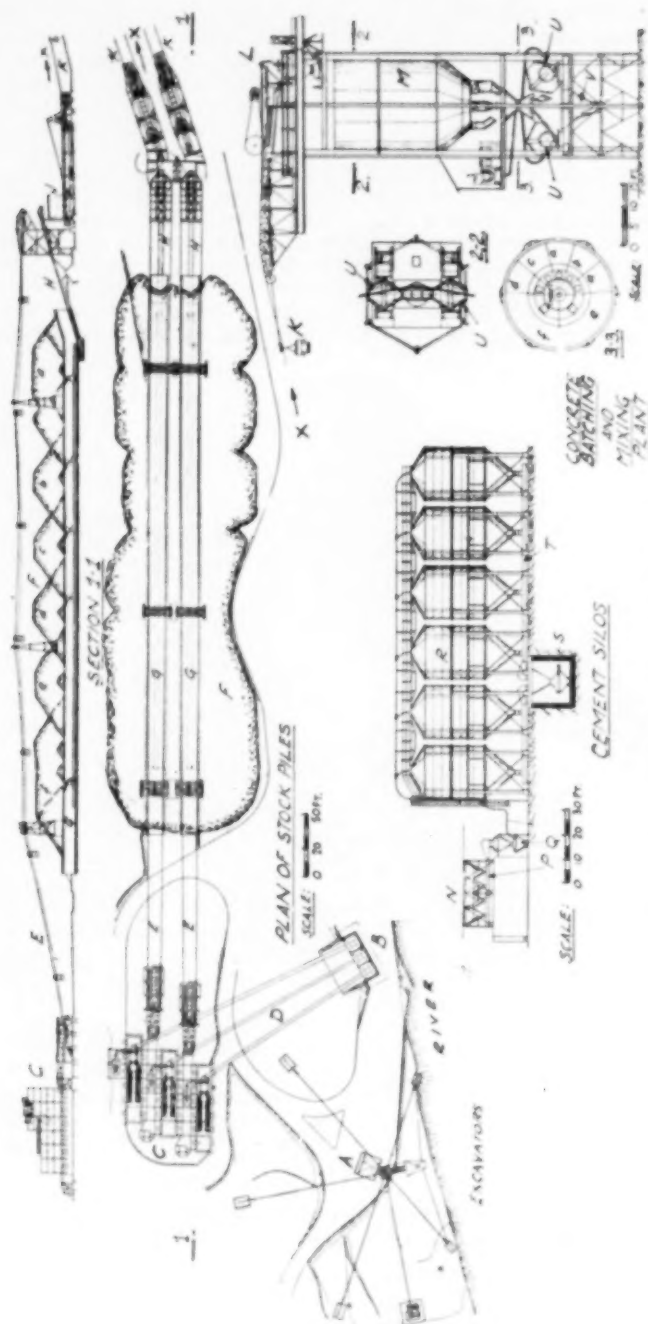
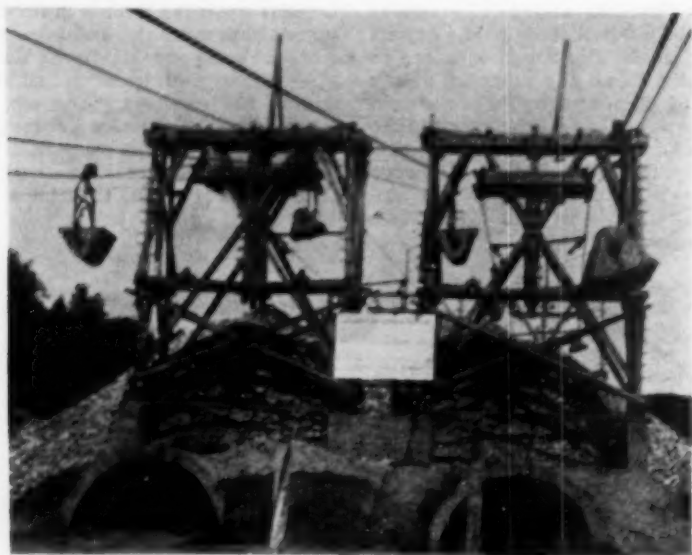

Fig. 4.—Materials and Concrete-making Plant.
Fig. 6.—Conveyor Tunnels under Stockpiles.
About  $1\frac{1}{2}$  miles downstream from the dam, aggregate is dredged from the river-bed by six electrically-operated cableway excavators (Fig. 4). Four of these machines have a span of 820 ft., and two have a span of 655 ft. Each excavator has a  $1\frac{1}{2}$ -cu. yd. bucket and digs an average of 50 tons of material an hour. The bucket is lowered from the overhead cable on to the river-bed and dragged a short distance at slow speed until filled; the operator depends upon experience to judge when the bucket is filled. The full bucket is raised and brought to the bank, where it is automatically tipped and emptied into a hopper (Fig. 5). The empty bucket returns by gravity to the digging position.
The hopper discharges into storage bins (A in Fig. 4), from which tipping wagons are loaded. The wagons deliver the aggregate to 10-cu. yd. underground feed-hoppers (B) serving the washing and screening plant (C). A screen with 8-in. apertures is provided above the feed-hoppers to separate large pieces of stone. The material is conveyed from the feed-hoppers by belt apron-feeders which discharge on to three inclined 30-in. belt conveyors (D) supplying the washing and screening plant at a constant rate.
transported by two double-cable ropeways (E) to stock-piles (F) (Fig. 4). The two ropeways could transport 400 tons of aggregate an hour. The empty buckets, on reaching the storage bins, are released automatically from the hauling rope, and run by gravity on a shunt-rail to the loading position. When full they run by gravity to a locking frame, where the ropes are automatically gripped, and the buckets travel to storage piles for different grades of material. Storage is necessary
Conveyors (G in Fig. 4) in parallel tunnels (Fig. 6) under the stock-piles are fed from controlled outlets and pass the material to inclined belt-conveyors (H) which run to the top of storage bins (J) and deposit in these bins aggregate of the size needed at the mixing station at a particular time. The bins discharge into the buckets of two single-cable overhead ropeways (K) by which the aggregate is taken to a central concrete-mixing station more than  $1\frac{1}{4}$  miles distant. Each single-
Seven compartments are for aggregates of different sizes (a) to (f), and the central one is for cement (Figs. 4 and 9).
which conveyors (P) carry it to an activator (Q) feeding six silos (R) (*Figs. 4 and 7*), having a total capacity of 3000 tons. An activator (S) and a conveyor (T) below the silos transfer the cement to the central mixing station.